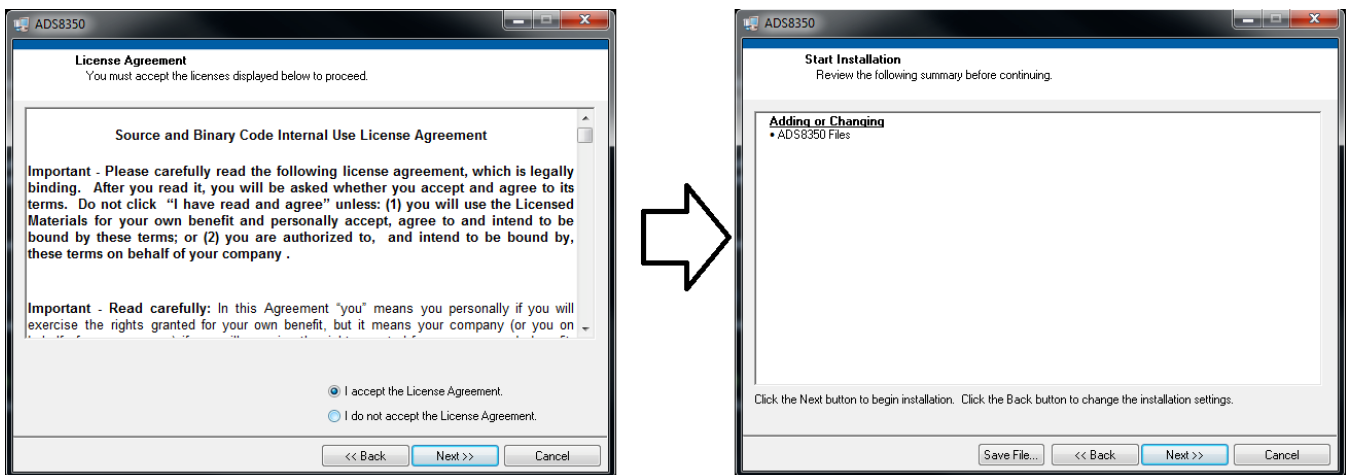

Figure 11. License Agreement and Start Installation Screens
7. The *Start Installation* screen appears, as shown in Figure 11. Click *Next*.